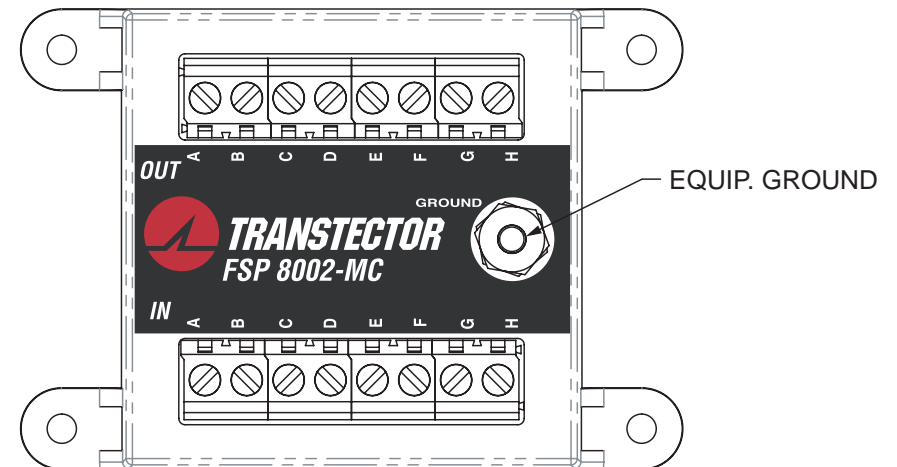

Figure 2
2. Wiring the FSP 8002-MC (See Figure 2):